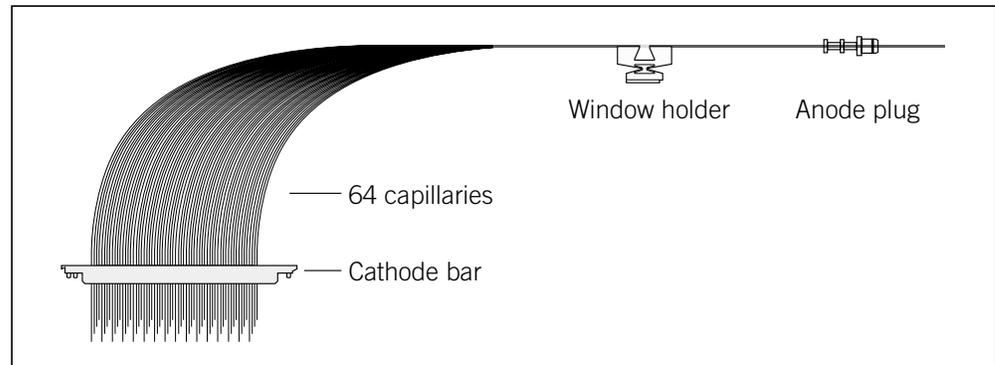

Figure 17-5. A capillary array.
- Using a laboratory wipe and starting just below the anode plug, gently wipe toward the anode tips of the capillaries to remove the matrix from between the capillaries in the anode bundle. See figures 17-5 and 17-6.